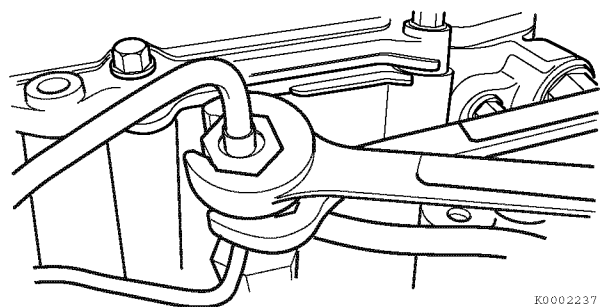

Figure 7-10
3. When tightening the fuel line nuts on the fuel injectors, use one wrench to hold the fuel return line nut and fuel return line from rotating. Use a second wrench to tighten the fuel line nuts (**Figure 7-10**). *See Special Torque Chart on page 7-8.*